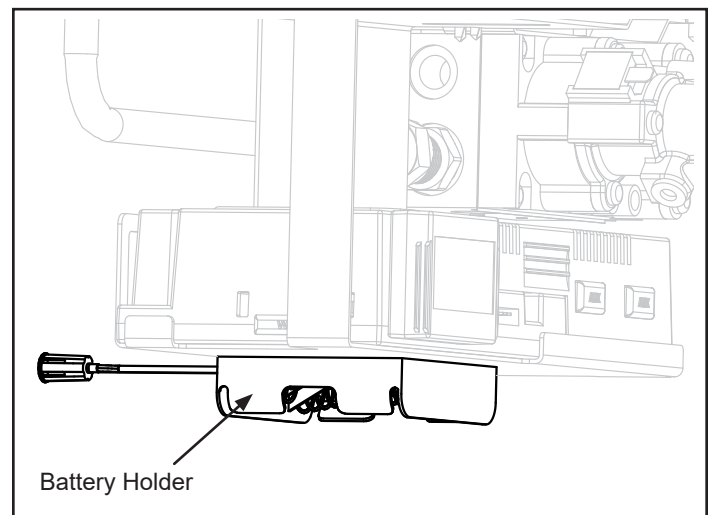

Figure 4.4 - Battery Holder
2. Locate the battery tray (located on the bottom of the ECM bracket) and insert four AA cell batteries, Figure 4.4. Battery polarity must be correct or module damage will occur. A complete wiring diagram is included in the Electrical section of the appliance Installation Manual.